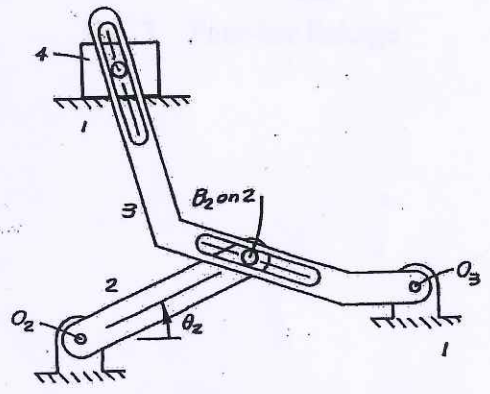

Figure 1 Crank-rocker-slider
- Figure 1 shows a crank-rocker-slider mechanism. (a) Draw the corresponding specified kinematic chain. (b) Identify the link and joint types. (c) Identify the mobility number. (d) Calculate its degrees of freedom. (15%)